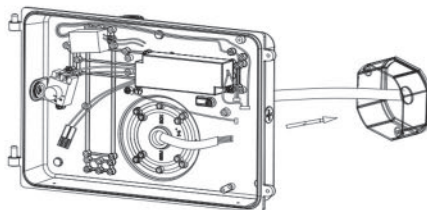

Fig. 1-3A
- 3.Loosen the plug on the bottom plate, then put the wiring through the hole,screw the bottom cover with junction box on the wall.(Fig. 1-3A&B)